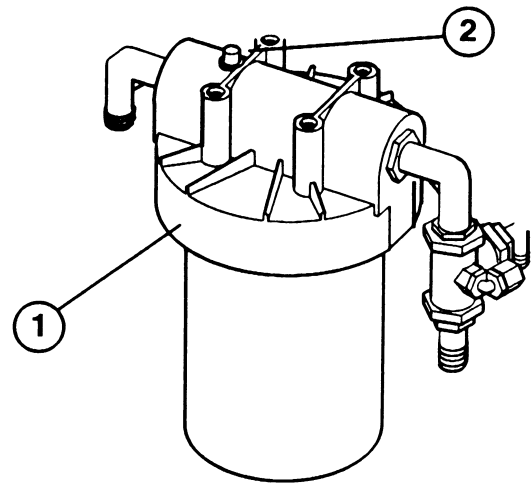

Figure 9
5. Reach under the fuel tank and press the bleed button on the top of the water filter head (Fig. 9). Hold the bleed button down until all air is purged from the filter and water comes out the opening.